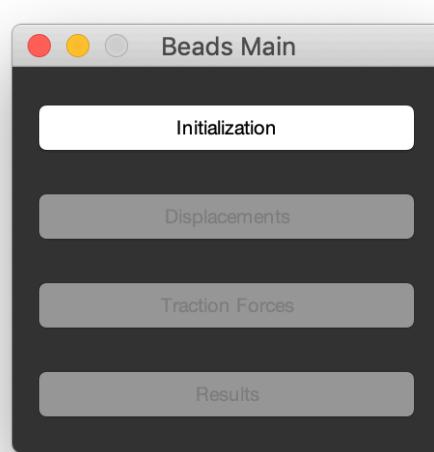
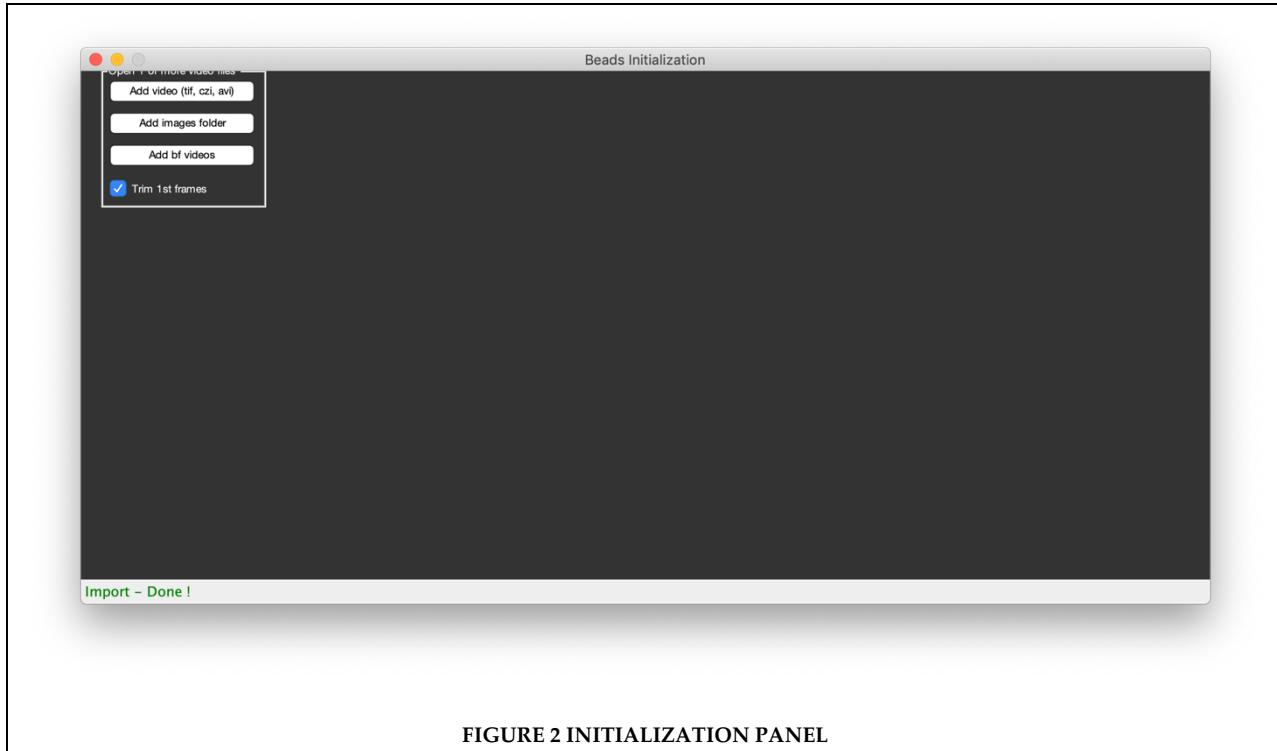

FIGURE 1 STREAMLINED TFM GUI MAIN CONTROL WINDOW.
FIGURE 2 INITIALIZATION PANEL
1. In the main panel (Figure 1), launch the initialization panel by clicking on the *Initialization* button (Figure 2).